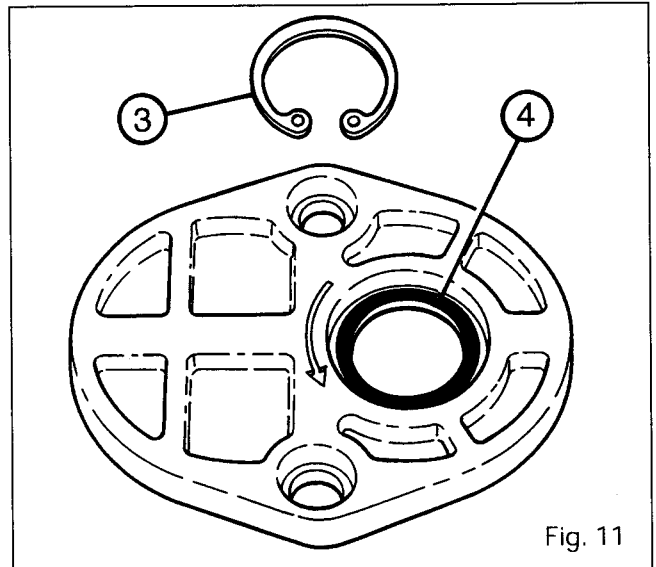
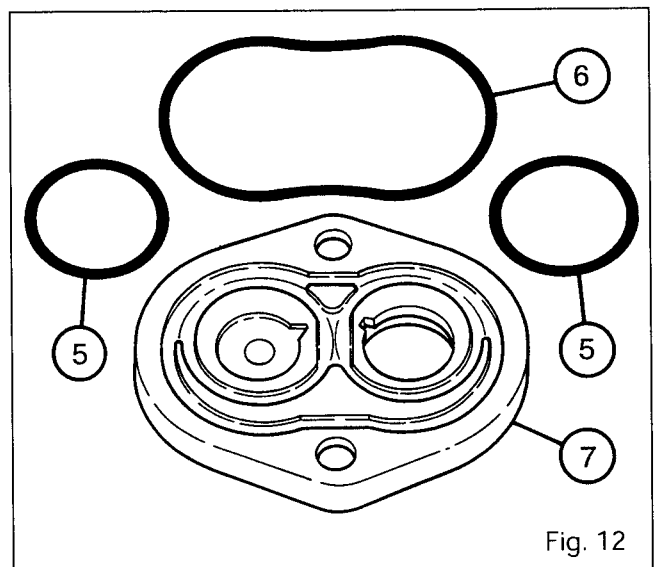

Fig. 11
Fig. 12
29. Remove the circlip (3), the lip seal (4) (Fig. 11) and the O-rings (5) and (6) (Fig. 12).
30. Lubricate the seal (4) and fit it using a suitable fixture. Install the circlip (6).
31. Lightly smear the O-rings (5) and (6) with miscible grease and position them in the cover (7) (Fig. 12).